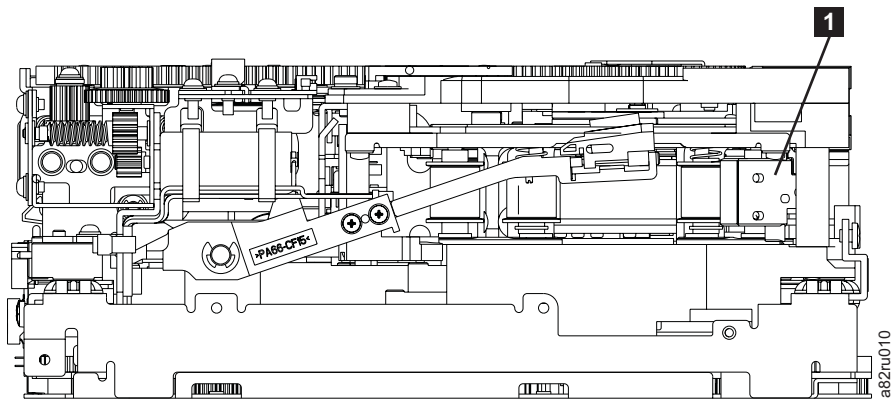

Figure 172. Leader Block Assembly (LBA)
10. Rotate the threader motor worm gear (**4** in Figure 171 on page 287) to turn the threader mechanism gear (**6** in Figure 171 on page 287) counterclockwise. This moves the LBA out of the cartridge and past the read/write head. Stop this rotation when the LBA is near the tape guide roller nearest the rear of the drive shown as **1** Figure 172.